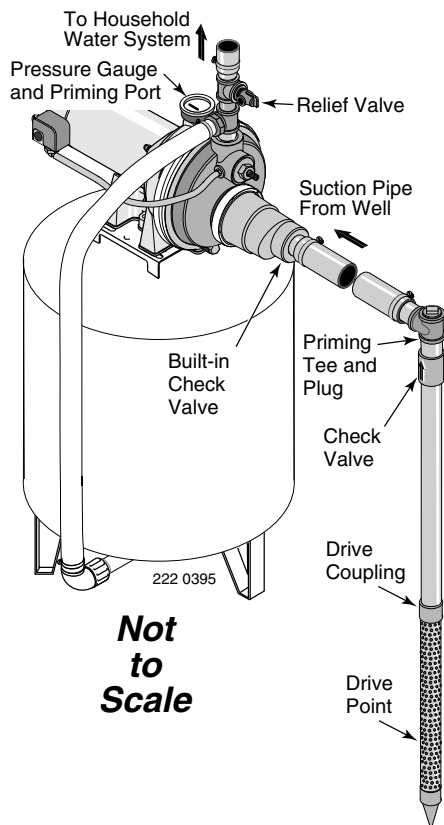

Figure 5: Driven Point Installation
WELL POINT INSTALLATION (Figure 5)
5. Use the fewest possible fittings (especially elbows) when connecting the pipe from the well point to the pump suction port. The suction pipe should be at least as large as the suction port on the pump (include a check valve – see Figure 5). Support the pipe so that there are no dips or sags in the pipe, so it doesn't strain the pump body, and so that it slopes slightly upward from the well to the pump (high spots can cause air pockets which can air lock the pump). Seal the suction pipe joints with teflon tape or pipe joint compound approved for use on PVC. Joints must be air- and water-